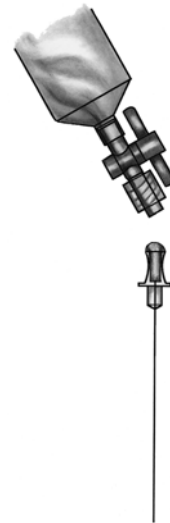

Figure 6: Filling the hub of the refill needle
5. Fill the hub of the refill needle with RINSE BUFFER and firmly attach it to the stopcock, prime the needle and close the stopcock. (See Figure 6.)
7. Fill one 3 mL syringe with RINSE BUFFER (RB) and attach a needle.